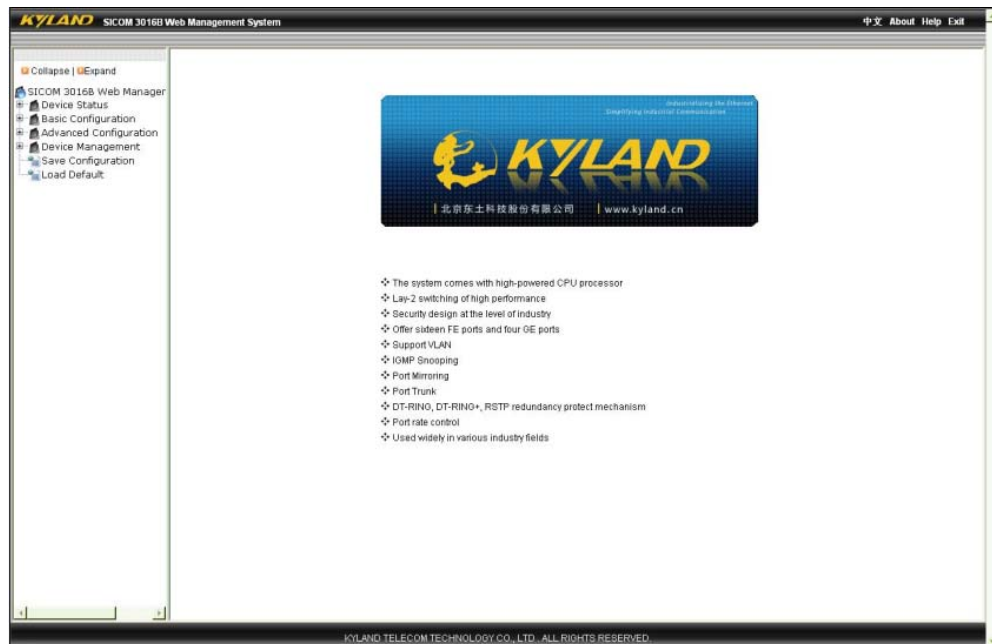

Figure 2: WEB main page
Step 2: The main page is shown as in Figure 2. At the left of the page, there is a tree menu for management, including the main menus of Device Status, Basic Configurations, Advanced Configurations, Device Management, Save Configurations, and Load Default.